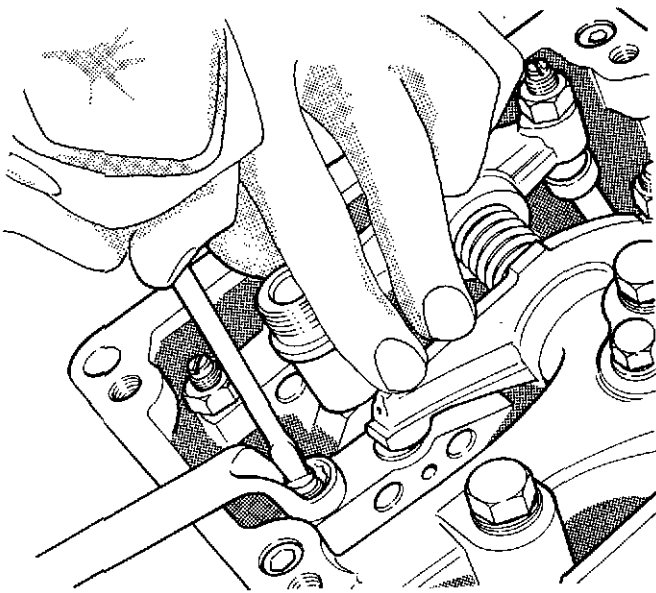

Fig. 22 Setting bridge pieces
- 77 Commencing with the 'A1' inlet valves, press down firmly on the centre of the valve bridge piece, and screw down the bridge piece adjusting screw until it is felt to just touch the valve stem tip, (fig. 22). Turn the screw a further $\frac{1}{6}$ turn (60 deg.) and tighten its locknut to a torque loading of 40 Nm (30 lbf.ft.). Next, set the exhaust valve bridge piece in the same manner.